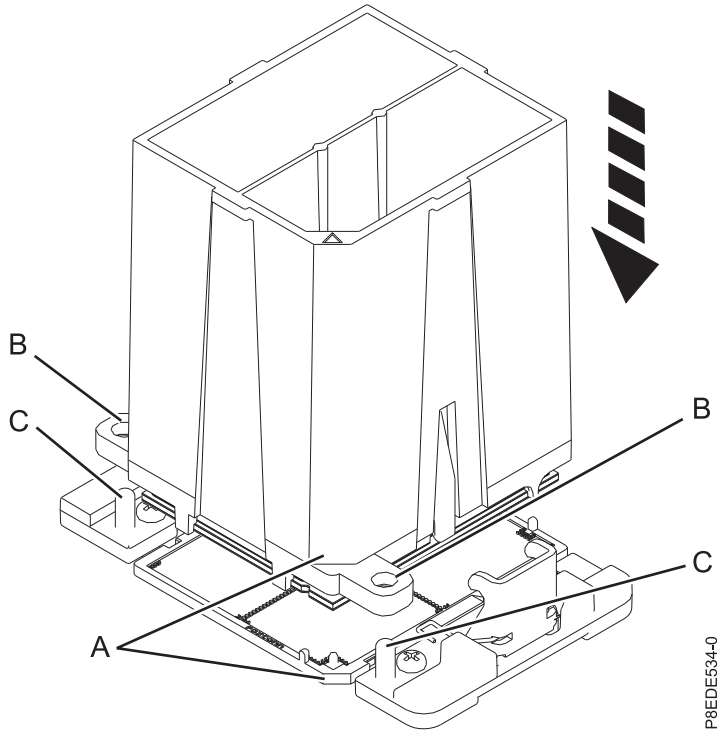

Figure 14. Installing the system processor module
- b. Lower the tool and system processor module onto the socket. Align the beveled corner **(A)** of the tool with the beveled corner on the socket. Ensure that the two guide pins **(C)** are inserted into the alignment holes **(B)** on each side of the tool. Use care to lower the tool evenly without tilting the tool. See Figure 14 on page 15.